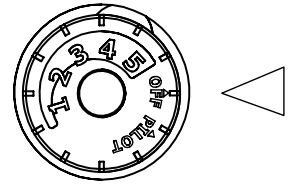

Fig. 25 - Control Knob
2. Turn control knob clockwise  to the "OFF" position (See Fig. 25).
3. Wait five (5) minutes to clear out any gas. Then smell for gas, including near the floor. If you smell gas, STOP! Follow "B" in the safety information above. If you don't smell gas, go to the next step.